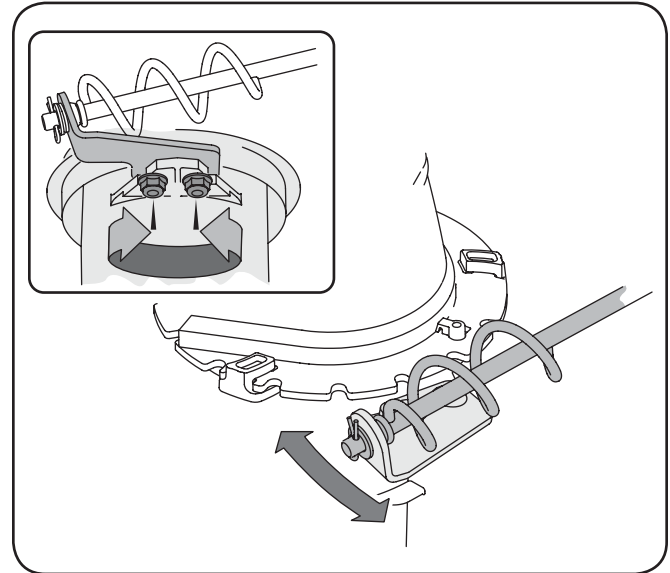

Figure 6-7
1. Loosen the two nuts which secure the chute bracket and reposition it slightly. See Fig. 6-7.